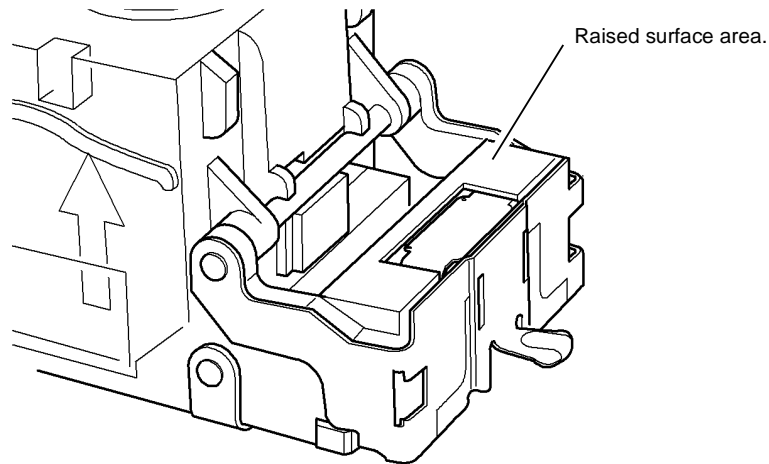

Figure 10 Staple cartridge
1. Figure 10. Check the staple cartridge for a raised surface.